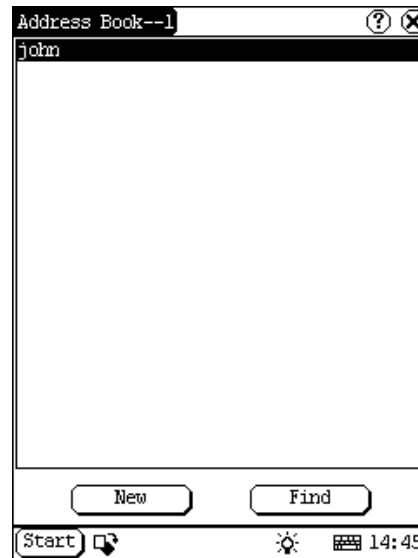

Figure 4-19
- 3) Click [New] button to open the Address New interface. (See Figure 4-19)